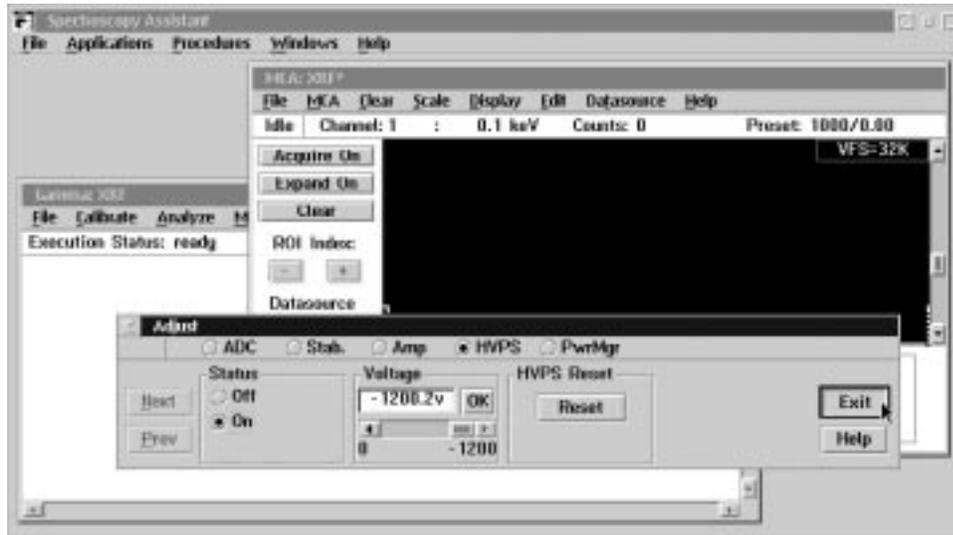

Figure 8. Window showing “Exit” button selected in the “Adjust” window after high voltage has been turned on.
12. Select the “Exit” button in the “Adjust” window as shown in Figure 8.